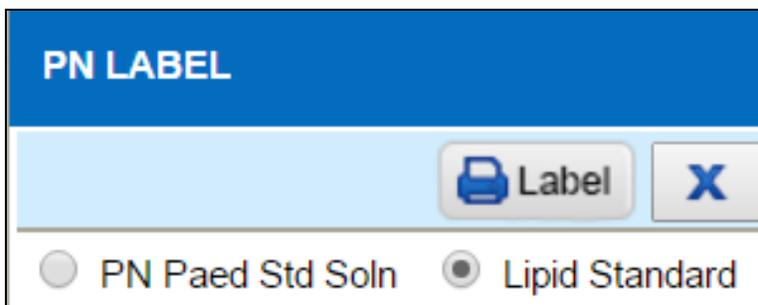

Figure 3.1-16 PN Drug Print Label
- If a Formulary is set up as Drug Type = PN in Drug Master, different types of Labels can be printed out as shown in Figure 3.1-16.